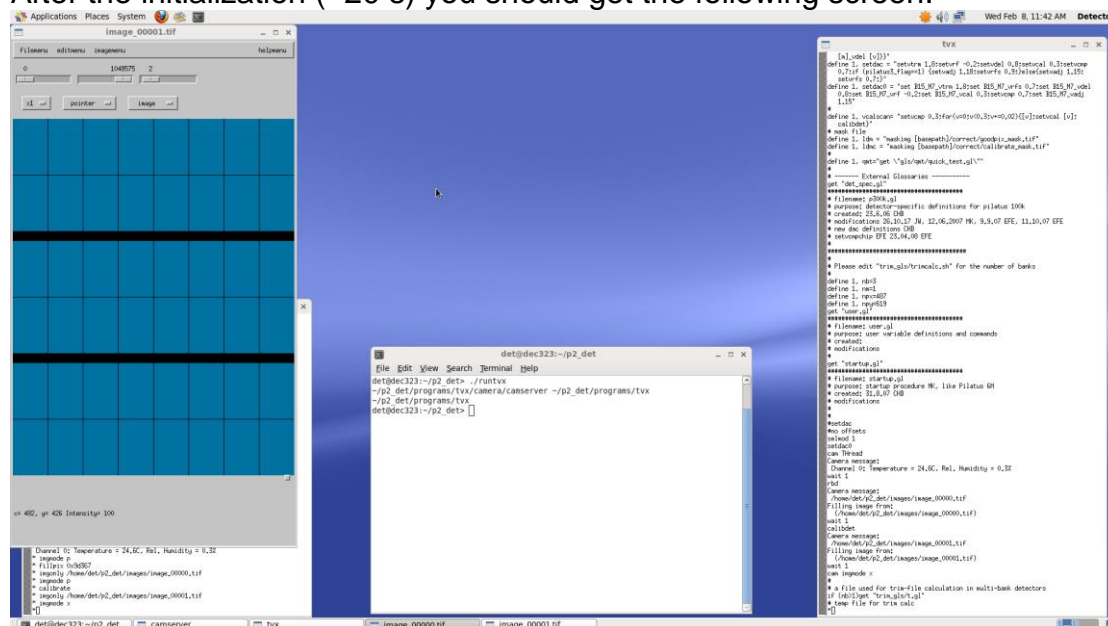

Figure 4. Startup screen after executing `./runTVX`
- The command `./runTVX` is a shell script which starts the programs Camserver (window on the left side of Figure 4) and TVX (window on the right side of Figure 4) as well as manages all log files.
Once two images (green and blue) appear on the screen the detector is ready to operate. In Figure 4 only one (blue) is visible since it is above the other (green) one. Both terminals (TVX and Camserver) have their prompt, indicated by an asterisk symbol (*).